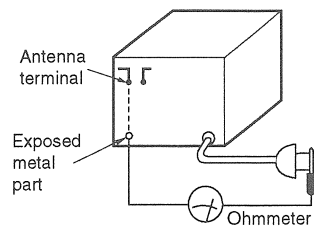

Fig. 1
3. Measure the resistance value with ohmmeter between the jumper AC plug and each exposed metal cabinet part ,such as screwheads, antenna ,control shafts ,handle brackets , etc . Equipment with antenna terminals should read between $3\text{M}\Omega$ and $5.2\text{M}\Omega$ to all exposed parts* .(Fig. 1) Equipment without antenna terminals should read approximately infinity to all exposed parts . (Fig. 2)